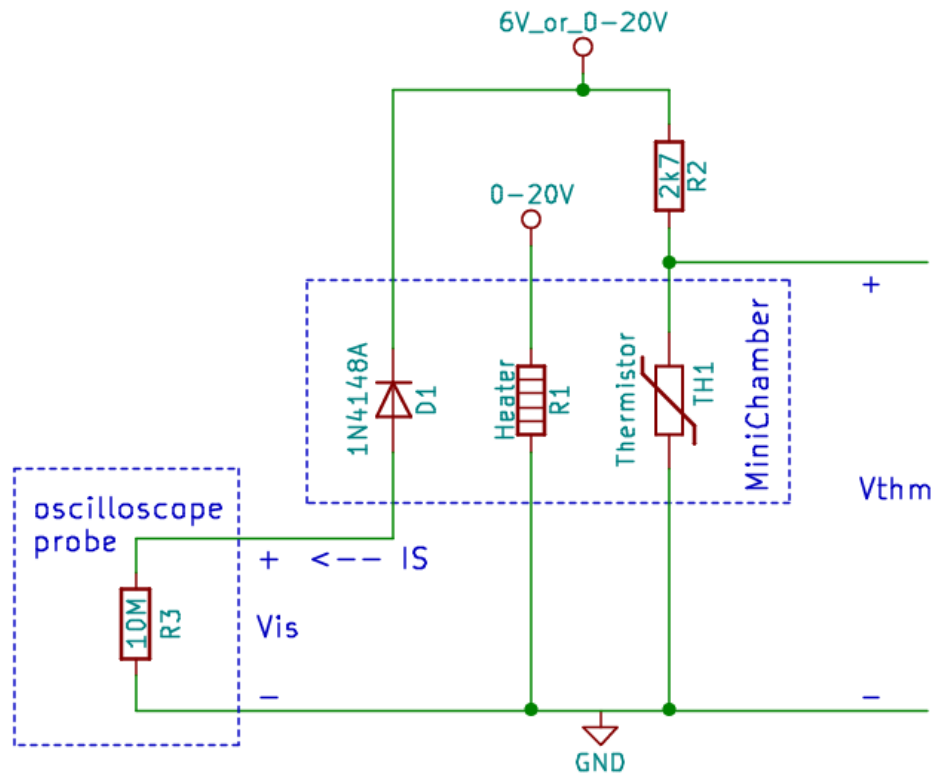

Figure 1 - MiniChamber equivalent schematic
2. Connect the $+6V$ power supply terminal to the node labeled 6V_or_0-20V in **Figure 1**.
3. Connect the +20 V power supply terminal to the node labeled 0-20V in **Figure 1**.
4. Connect the COM terminal of the power supply to the node labeled GND in **Figure 1**.
- This makes it appear that channel 1 is connected across *nothing*, which is not necessarily intuitive. The currents we will be measuring will start at a few nA, a million times below the range of cheap ammeters (the nice multimeters can measure this, but we don't have enough of them for every lab station). With this connection scheme, the saturation current I_S is forced to go through the 10 M Ω input resistance of the oscilloscope+probe combination. It is operating as a *current shunt*. The voltage measured across this resistance by the scope is proportional to the current through it via Ohms "Law". This current I_S is shown in **Figure 1**.